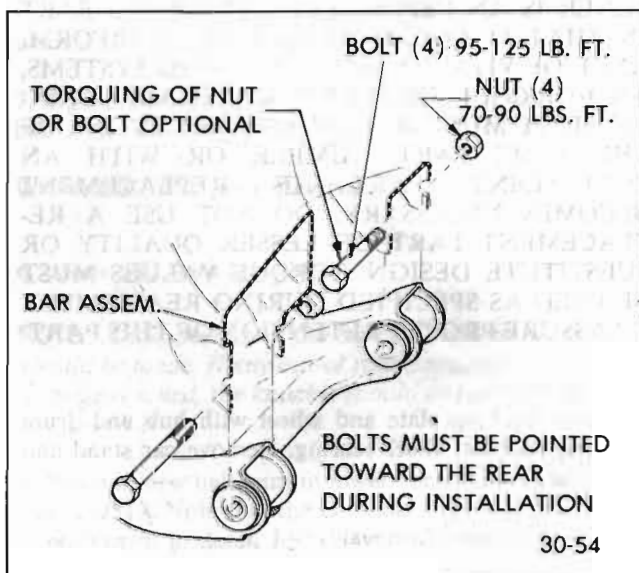

Figure 30-15 - Lower Control Arm Attachment
2. Remove the two nuts and bolts attaching the control arm to the frame. See Figure 30-15.
2. Install arm with the bolt heads to the front (bolt must be pointing to rear) of the car. See Figure 30-15.